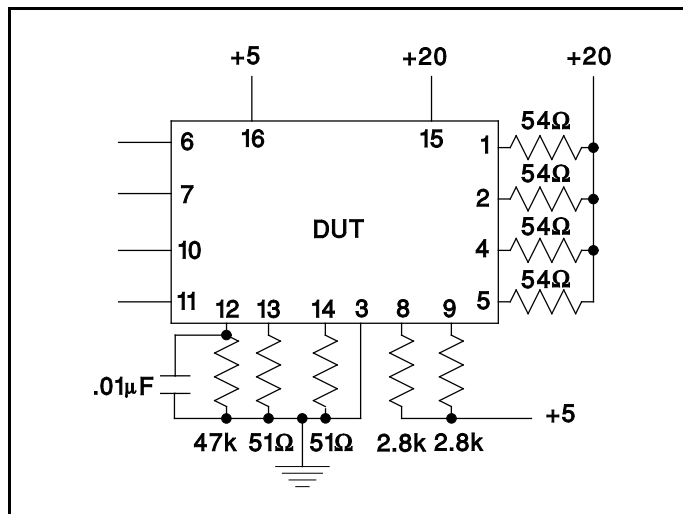

Figure 3. Test Circuit
**RC:** RC controls the timing functions of the monostables in the UC3517. It is normally connected to a resistor (RT) and a capacitor (CT) to ground, as shown in Figure 3. Monostable on time is determined by the formula  $T_{ON} \approx 0.69 R_T C_T$ . To keep the monostable on indefinitely, pull RC to VCC through a 50k resistor. The UC3517 contains only one RC pin for two monostables. If step rates comparable to  $T_{ON}$  are commanded, incorrect pulsing can result, so consider maximum step rates when selecting RT and CT. Keep  $T_{ON} \leq T_{STEP MAX}$ .